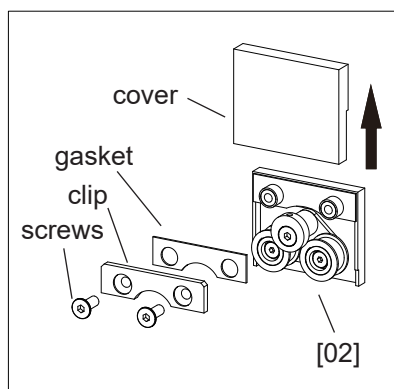

Fig 5.1
1. Remove **covers**, **screws**, **clips** and **gaskets** from the **Rollers [02]**. (Fig 5.1)